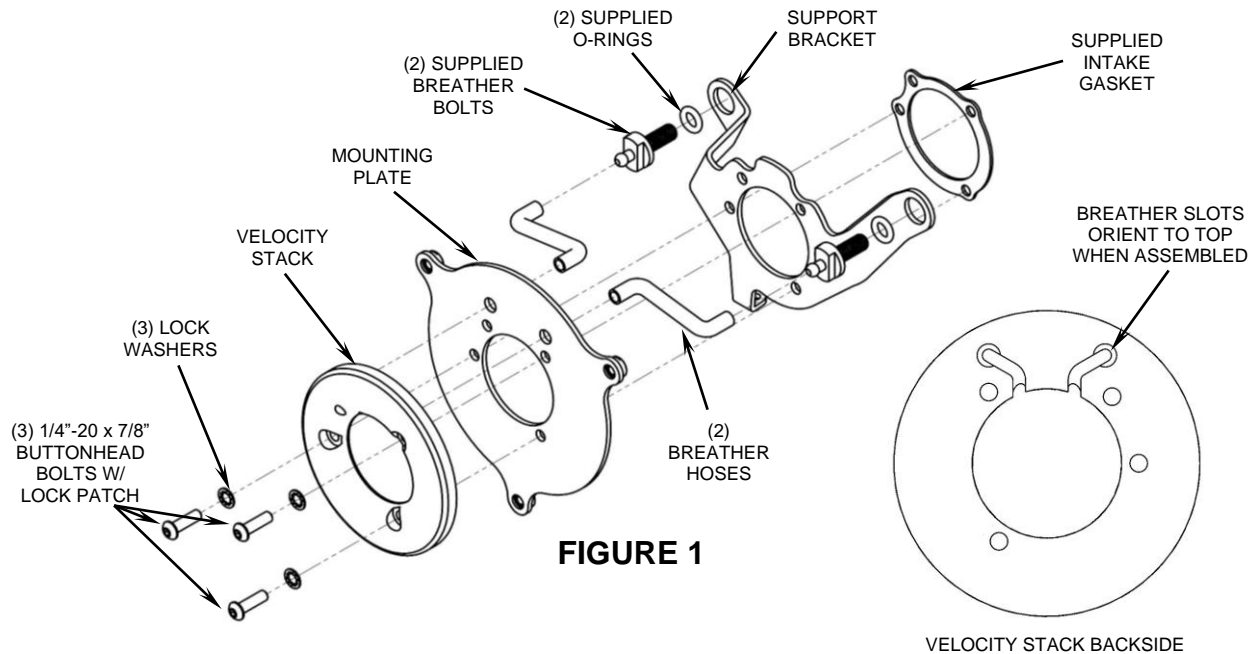

FIGURE 1
2. Remove and discard the (2) stock breather bolts, (2) stock o-rings, and the stock breather hoses from the cylinder heads.
3. Insert (3) supplied 1/4"-20 x 7/8" buttonhead bolts with lock washers through the mounting holes in the velocity stack and base mounting plate.
4. While holding that assembly together with one hand, insert the (2) supplied breather hoses through the mounting plate and into the velocity stack with the hoses rotated outward, as shown in **FIGURE 1**. Make sure the hoses are bottomed out in the back of the velocity stack.
5. Join together the assembly from Step 3 with the supplied support bracket and gasket then start threading the (3) buttonhead bolts into the throttle body, but do not tighten.